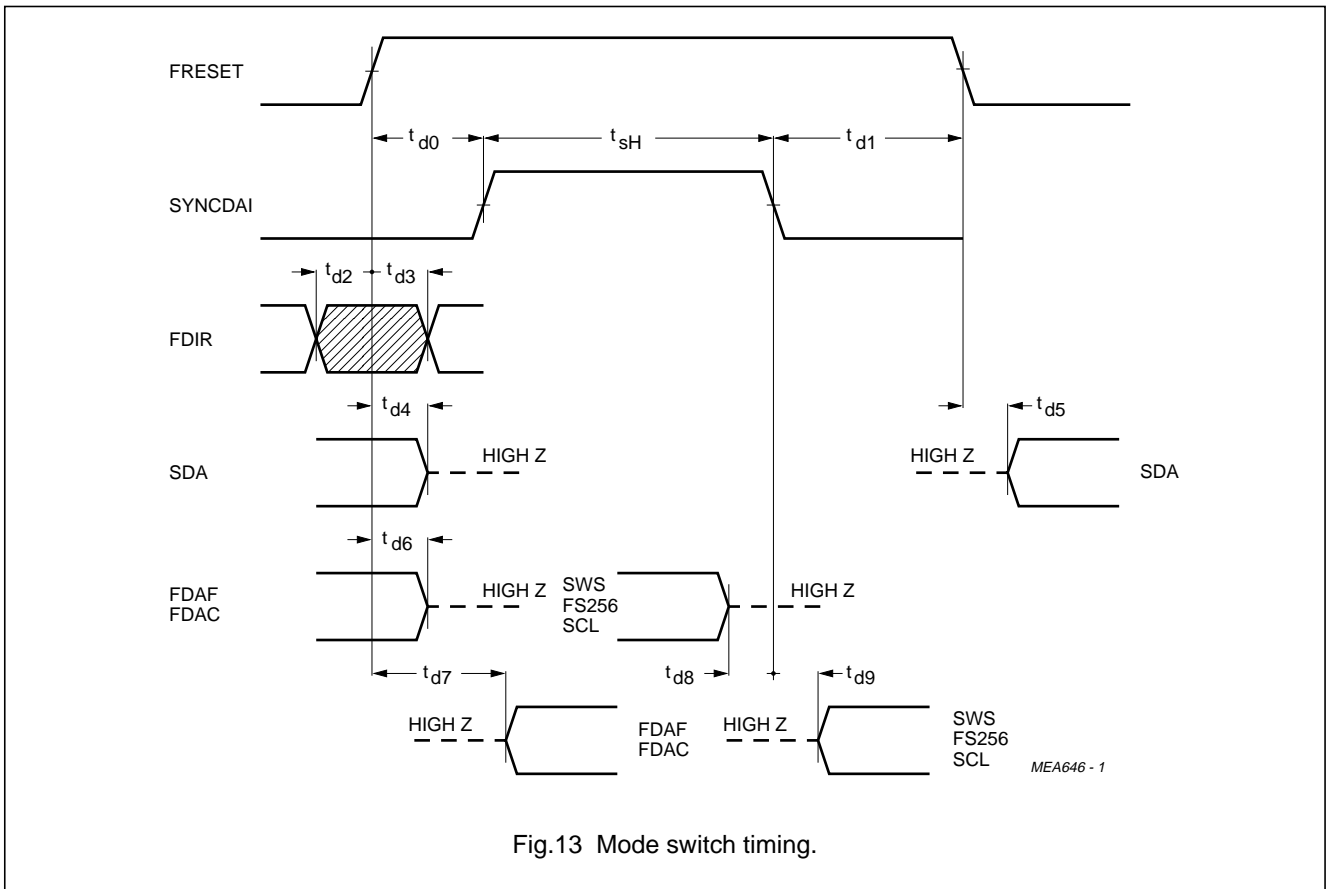

Fig.13 Mode switch timing.
Notes to Fig.13
**Notes to Fig.13**